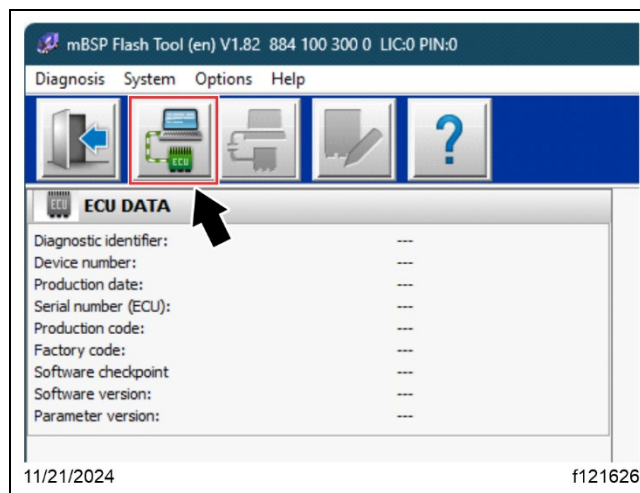

Fig. 49, Initializing the ECU and Switching to Diagnostic Mode
12. If the ECU does not automatically connect, select the button, shown in **Fig. 49**, to initialize the ECU and switch to diagnostic mode.